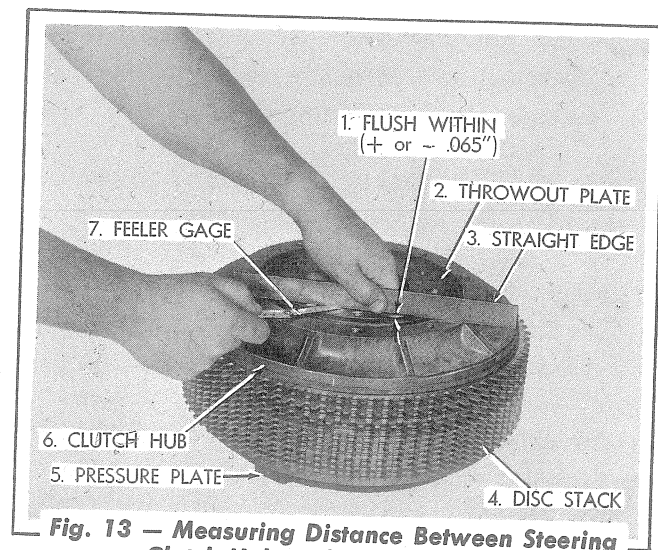

Fig. 13 — Measuring Distance Between Steering Clutch Hub and Throwout Plate
13. Using a straight edge and feeler gage, measure the distance between the machined end of the clutch hub and the face of the throwout plate as shown in Fig. 13; these surfaces **MUST** be flush within plus or minus .065". If the throwout plate extends out more than .065" from the face of the hub, another steel disc (or discs) must be installed next to the pressure plate. If the throwout plate is more than .065" below the face of the hub, remove a steel disc from next to the pressure plate.